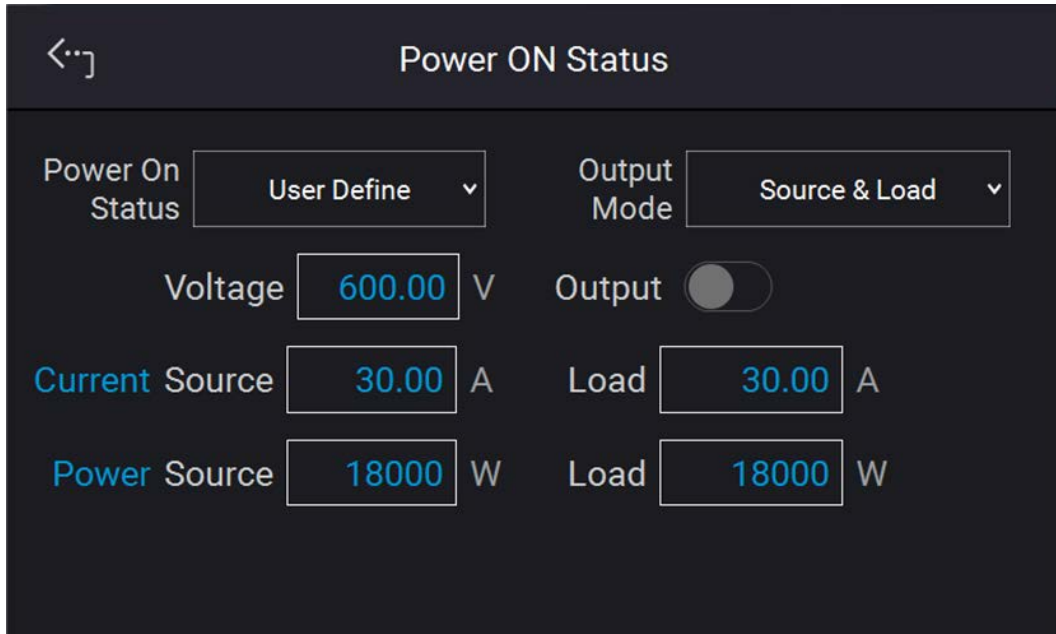

Figure 3-60
1. In "Configuration" page, select "Power On Status" display will appear as Figure 3-60 shows.